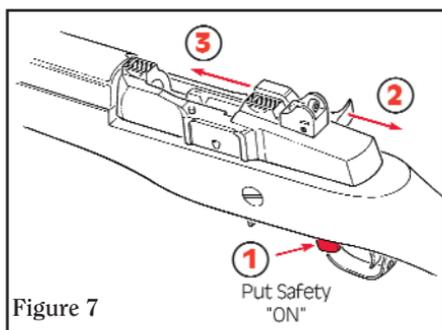

Figure 7
2. Pull the slide handle all the way to the rear and release. Make sure safety is “ON” (see Fig. 7). NOTE: Hammer must be cocked and safety must be “ON” to accomplish disassembly and reassembly. Again, be sure chamber is empty!